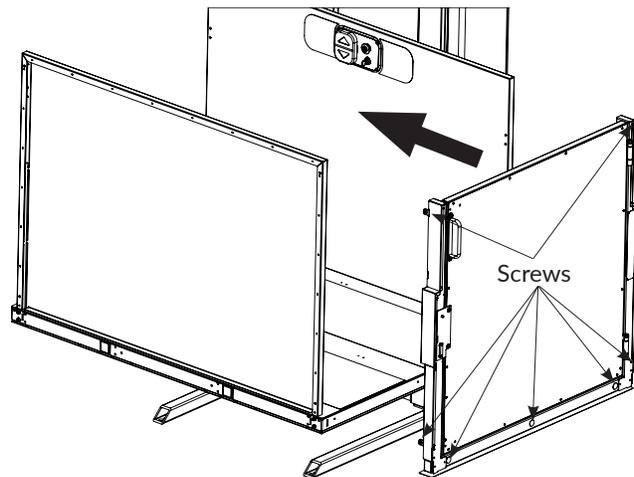

Figure 4-6
- Install (4) $\frac{1}{4}$ " -20 x $\frac{5}{8}$ " screws through tabs in gate frame into threaded holes on platform panels. *See Figure 4-6.*